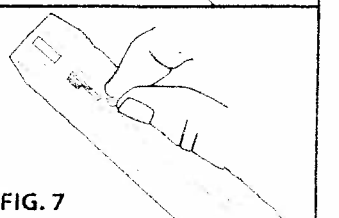

FIG. 7
3. Once the Magazine BB follower is held fully forward, a maximum of 15 .177 caliber BBs can be individually inserted into the Magazine Loading Port as shown. (Fig. 7)